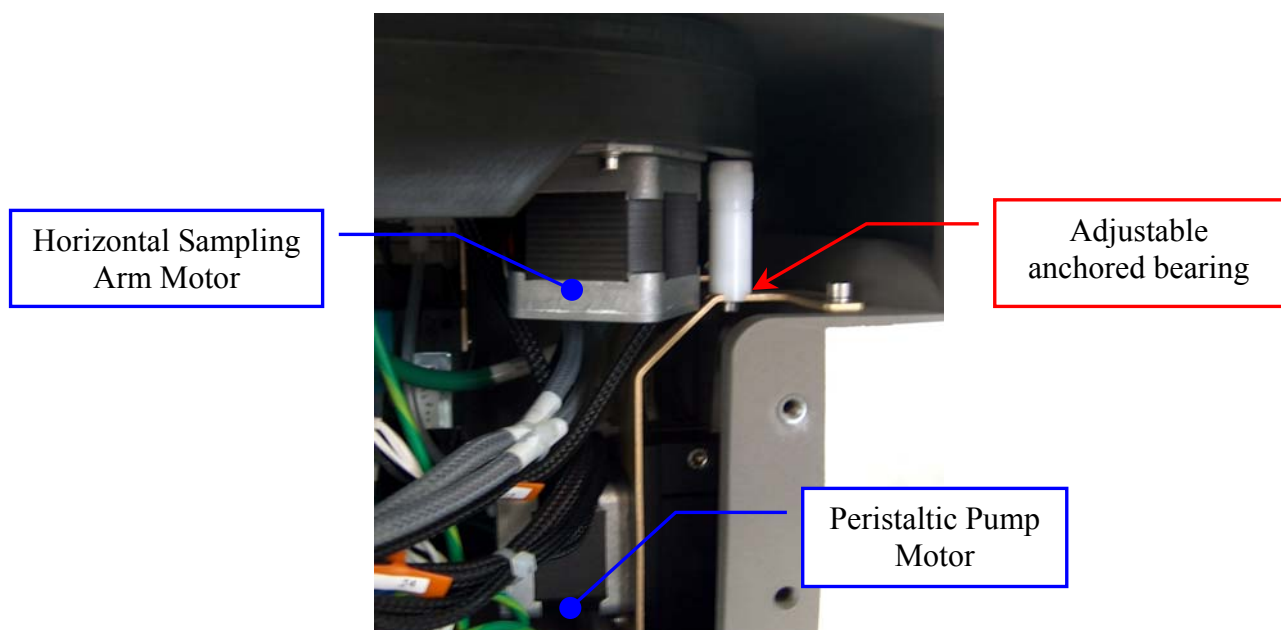

Fig. 7 – Adjustable anchored bearing
18. Make sure that the Sampling Probe is vertically aligned and centered with respect to position #1 of the Standards Plate. If it not be so: adjust the positioning by using the ‘+’ and ‘-’ keys, adjust (if necessary) the verticality by using the adjustable anchored bearing (Fig. 7), click the ‘Save’ button, then repeat the above steps from 6.